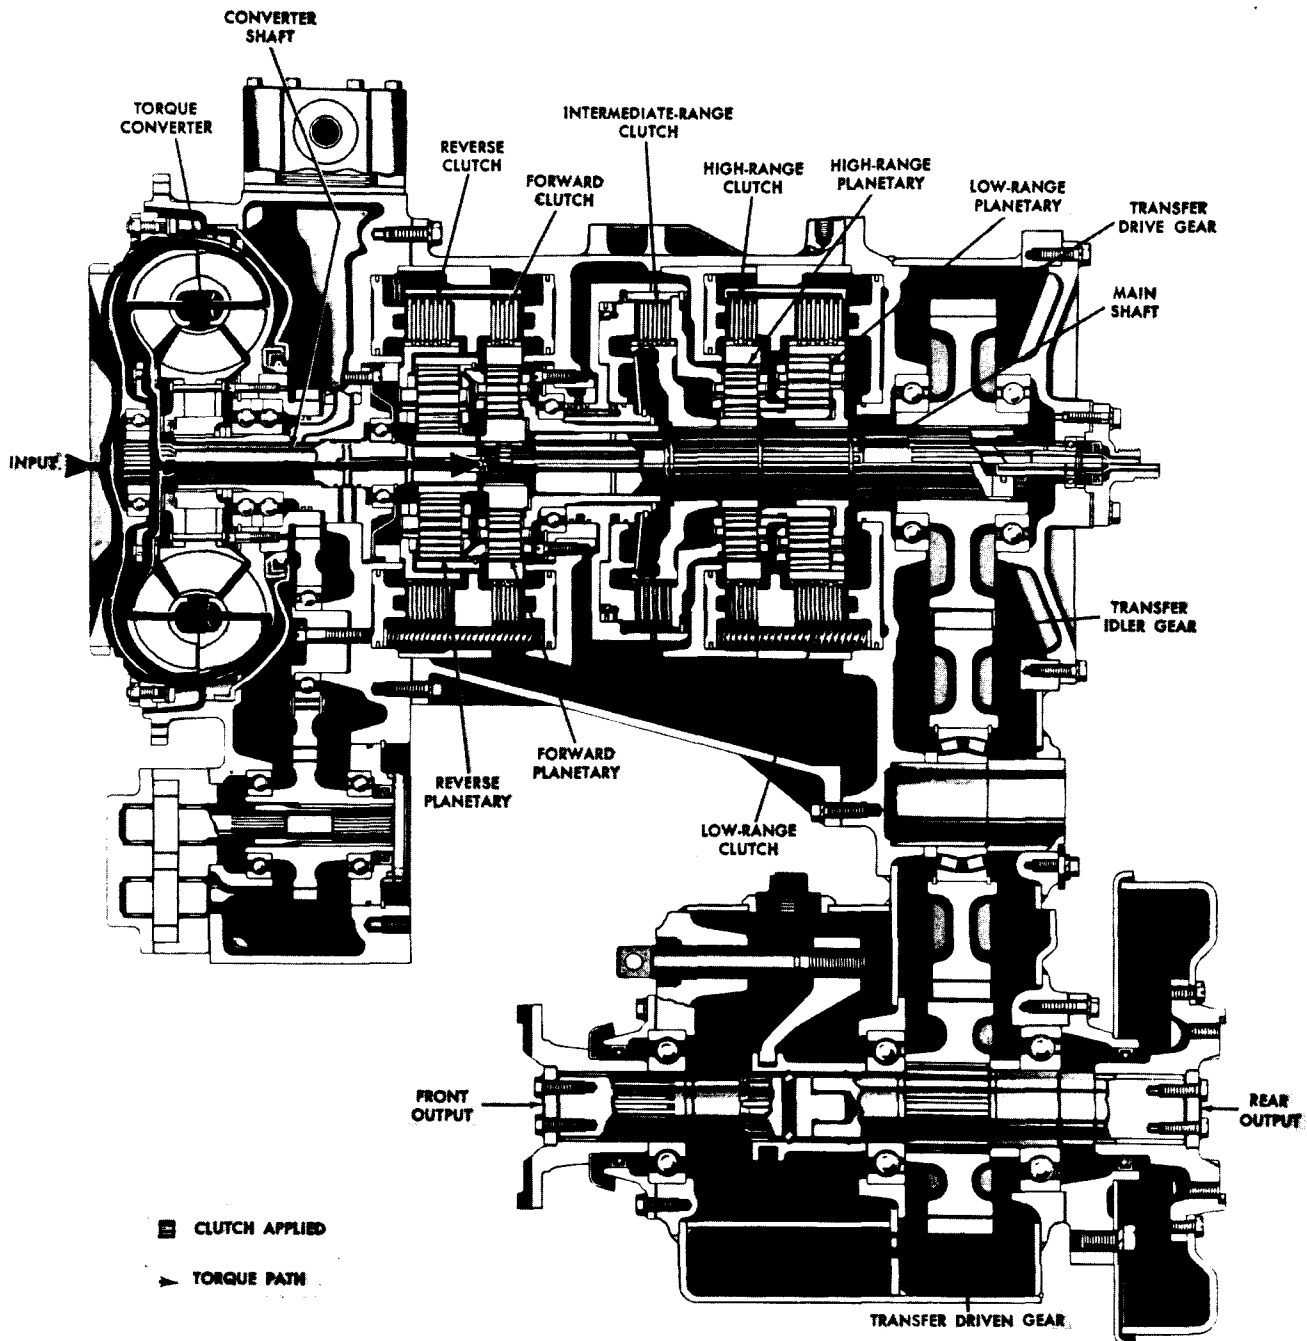

Fig. II-1. Neutral—torque path (CRT 3331-1)
a. Fig. II-1 through II-7 illustrate the flow of power through the transmission during operation in the various drive ranges. Para 23 through 29, below, explain the flow of power. In the illustrations, the power path is represented by a continuous red line from the transmission input to the output or outputs. Applied clutches are indicated by parallel, horizontal red lines on the clutch plates.
23. NEUTRAL – TORQUE PATH (fig. II-1)